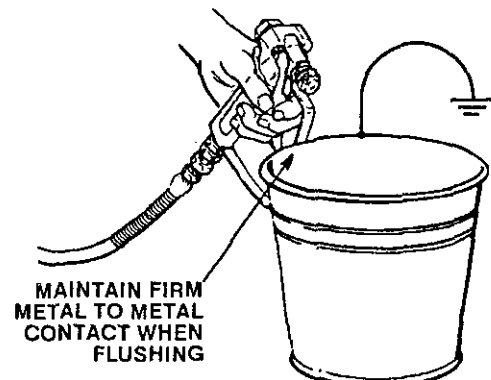

Fig 11-2
7. Hold a metal part of the gun firmly against a metal waste container. See Fig 11-2. Hold the trigger open, turn on the sprayer, and slowly increase the pressure just until the sprayer starts. Keep the gun triggered until all air is forced out of the system and the solvent flows freely from the gun. Release the trigger and engage the gun safety latch.